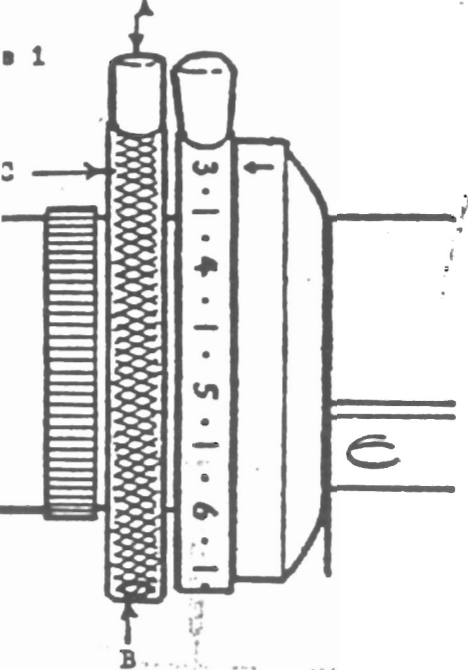

Figure 2
- Figure 2 - Loosen the locking thumbscrew (D) and pull calibration ring (E) to the rear so that the teeth (F) are disengaged. Rotate the trajectory cam ring (H) in the required direction until the indicating arrow (G) is in the proper position.